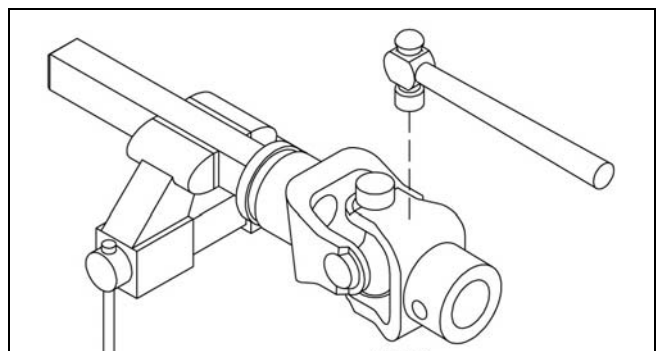

Figure 26. Remove Cups
- With snap rings removed, support drive in vise, hold yoke in hand and tap on yoke to drive cup up out of yoke. See Figure 26.